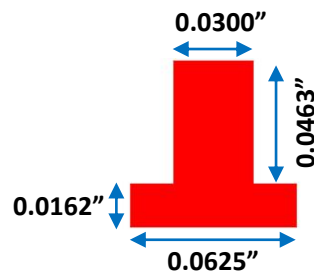

Figure 25 – Longeron Cross Section
- Step 3 was to cut 30 "T" grooves into each Cross Section as shown in Fig. 23 to the dimensions shown in Fig 25.
The Longerons were also milled from 0.0625" 6061 sheet aluminum. The cross-sectional shape of each longeron is shown in Fig. 25.